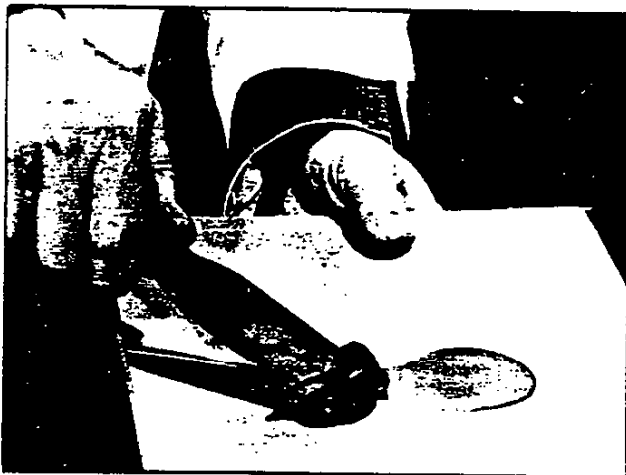

Fig. 54—Mixing Plastic (Epoxy) Solder Material
2. Mix the materials (fig. 54).